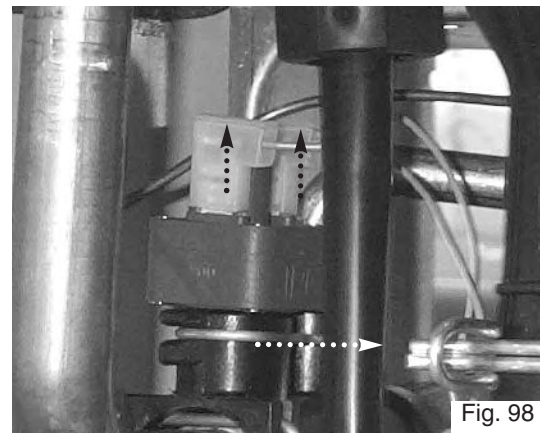

Fig. 98
2. Pull off the connections and remove the pressure switch by releasing its securing clip (see Fig. 98).